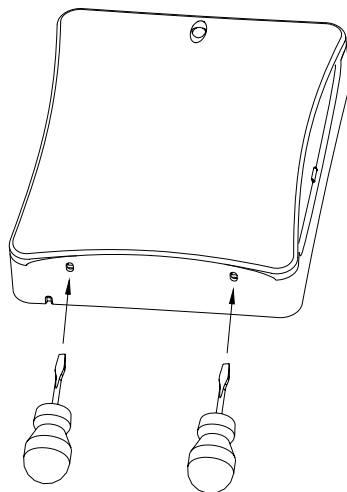

Fig.5
- 5 Release cover using the two release clips (Fig 5) Unplug the sensor cable from the PCB if present
11. Fit the isolator unit to the power supply enclosure using the screws provided (Fig. 5).